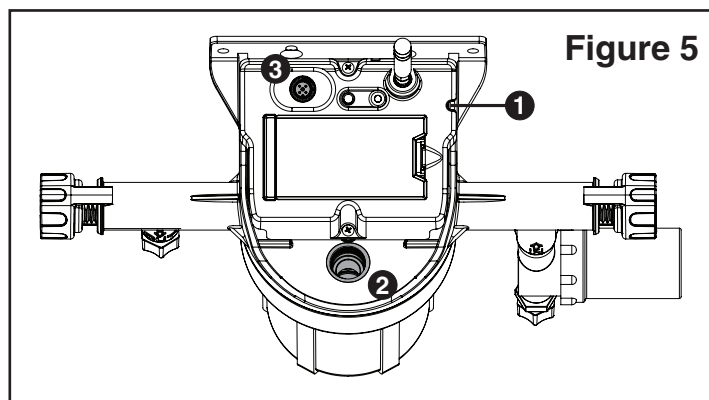

Figure 5
3. Plug the power supply cable into the AC Power Terminal (1). See **Figure 5**.
3. Carefully insert the electrode through the top of the cell reservoir (2) and hand tighten. See **Figure 5**.
4. Connect the electrode to the Electrode Terminal (3). Hand tighten at the metal chrome collar on the end of the electrode plug. See **Figure 5**.